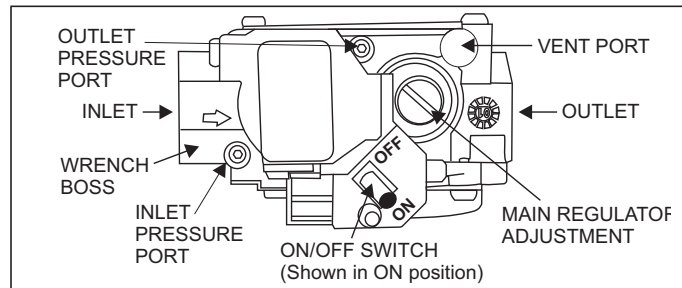

FIGURE 40: Gas Valve
Inlet and manifold gas pressure may be measured by connecting the "U" tube manometer to the gas valve with a piece of tubing. Follow the appropriate section in the instructions below. Refer to Figure 40 for the locations of the pressure ports on the gas valve.
Connect the positive side of the manometer to the IN P Tap on the gas valve. Do not connect any tubing to the negative side of the manometer, as it will reference atmospheric pressure. Refer to Figures 40 and 41 for connection details.
Connect the positive side of the manometer to the OUT P Tap on the gas valve. Do not connect any tubing to the negative side of the manometer, as it will reference atmospheric pressure. Refer to Figures 40 and 41 for connection details.
1. Refer to Figure 40 for location of pressure regulator adjustment cap and adjustment screws on main gas valve.